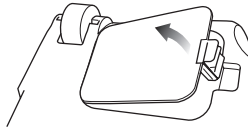

Fig. 14
- 3 Push in the locking tab and lift off the battery compartment cover. (Fig. 14)